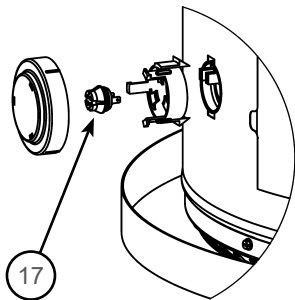

Figure 59.
- 17 Flammable Vapor Sensor (under cover) (see Figure 5) (see also Figure 59)